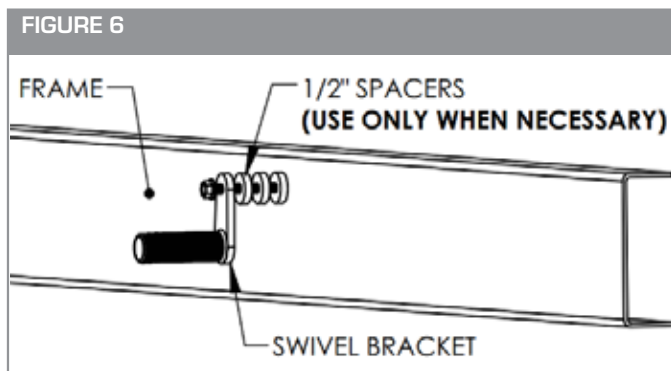

FIGURE 7
- Once the brackets are in position with the fender, tighten the 5/8" x 4-1/2" bolt that goes through the (10001474) swivel bracket to attach the swivel securely to the frame. (See Figure 7)